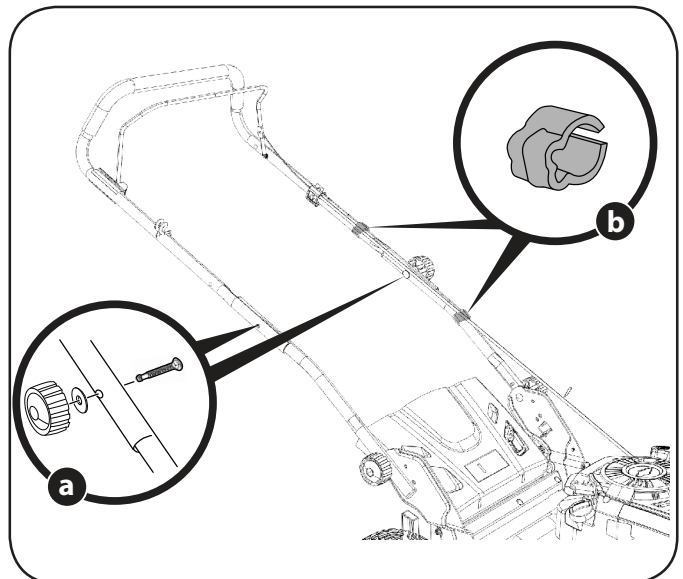

Figure 3
- a. Secure the upper handle using the star knobs, washers, and carriage bolts (Figure 3).
- b. Use the cable clamps to secure the control cables to the upper and lower handles (Figure 3).